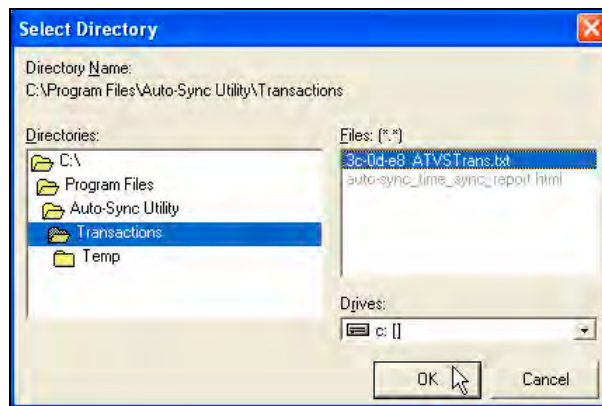

Figure 5-9. Select Report Directory.
6. You should see the files you want to use in the "Files \*.\*" listing on the Select Directory screen (see *Figure 5-9*). Click the **OK** button to close the Select Directory screen. The default location path will be: C:\Program Files\Auto-Sync Utility\Transactions\Temp.
*NOTE: The transaction file will automatically be named auto-sync\_time\_sync\_report.html or .txt (see Figure 5-9). The transaction report file created in either html or text format can be easily edited. Every time you create a report file the previous report file will be overwritten. It is recommended to move the report file to a different location if you do not want that to happen.*